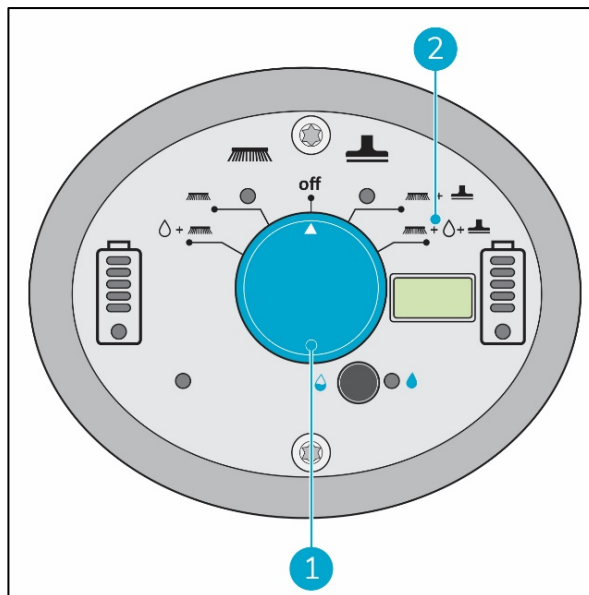

Figure 22
2. Use the i-mop® XXL plus main switch (Figure 22, pos 1) and choose MODE 4 Brush + Water/Cleaning solution + Dry vacuum (Figure 22, pos 2).